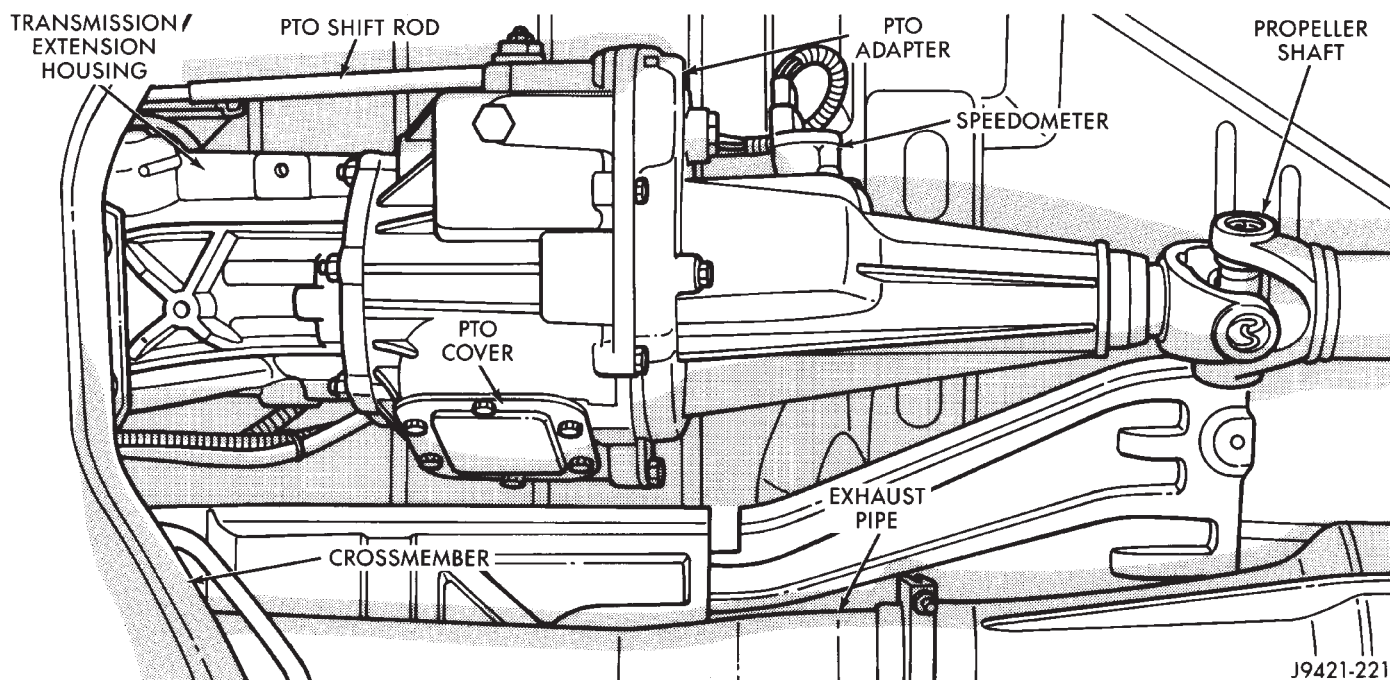

Fig. 11 PTO Adapter Mounting
- (5) Mark propeller shaft yoke for alignment reference. Then disconnect and remove propeller shaft.
- (6) Remove nuts securing adapter mounting studs to transmission extension (Fig. 11).
- (7) Slide adapter studs out of transmission extension and remove adapter from vehicle.
- (8) If a gasket is used between adapter and transmission, retain gasket if in good condition.